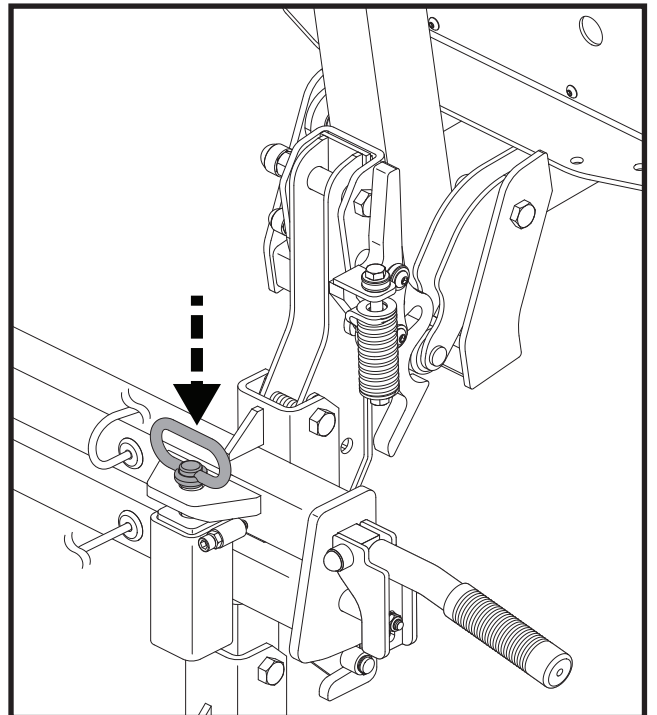

Figure 20. Secure Swing-away Adapter
2. Align swing away adapter over receiver and latch as shown in **figure 20**.